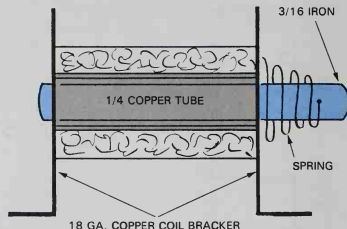

Fig. 18-14. Coil construction of two tone door chime.
2. Holes have been drilled in the chime bars and rubber grommets inserted in the holes. Supports are designed to hold bars in position, but not rigidly. The coil construction is clearly explained in the illustration, Fig. 18-14. The core is 1/4 in. copper tubing and the ends or coil supports are made of 20 ga. sheet copper or plastic. The core and the end brackets are soldered or glued together.